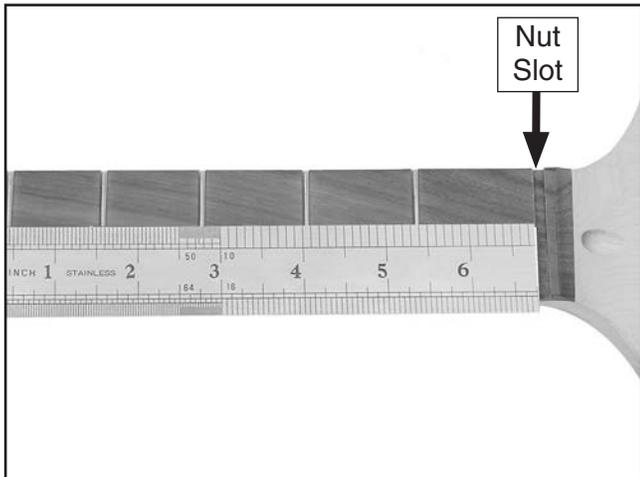
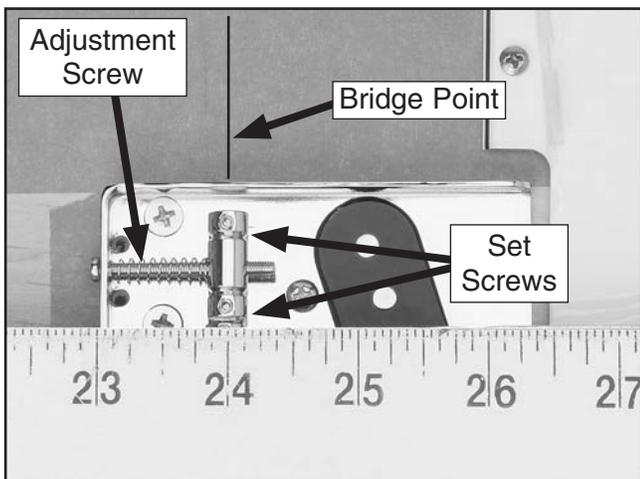

Figure 13. Measuring $25\frac{1}{2}$ " from nut along center line.
Figure 14. Bridge point and high E saddle adjustment screw.
9. Using the long straightedge, measure $25\frac{1}{2}$ " from the fretboard side of the nut slot (see **Figure 13**) along the center line to the bridge point (see **Figure 14**), and mark this location on the guitar.
10. Using a Phillips head screwdriver, turn the lower saddle adjustment screw so the set screws shown in **Figure 14** are centered over the bridge point.